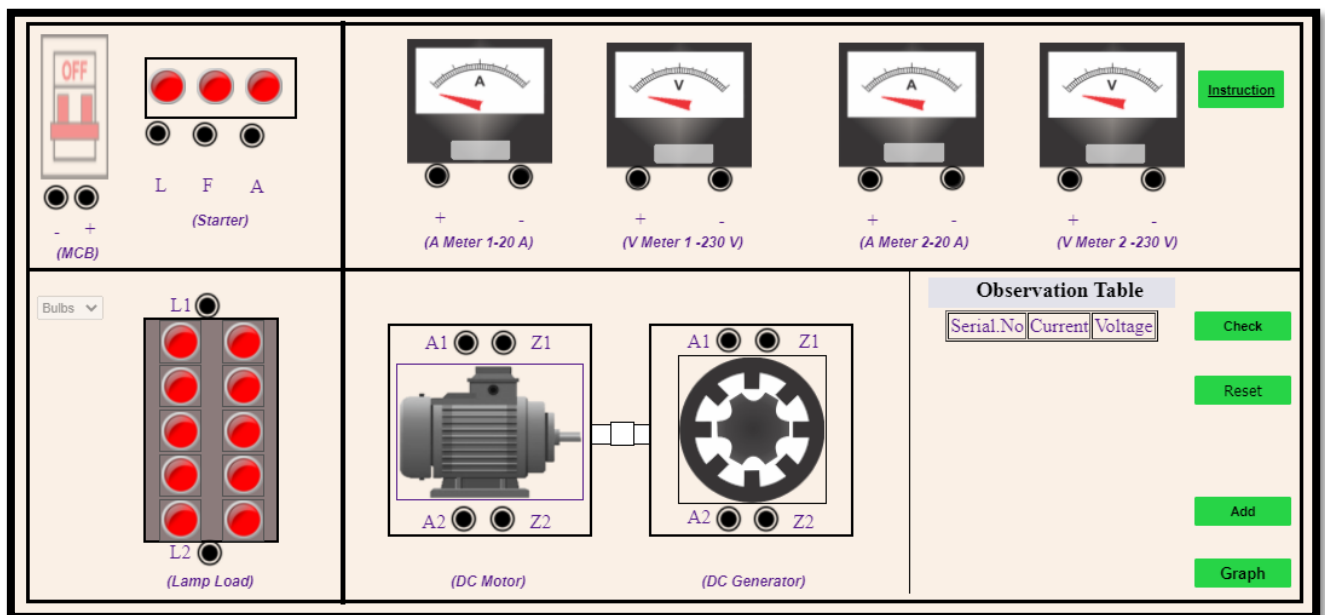

Figure 3: Draw the wiring diagram for this figure.
Step 5.1: Make all the correct connections. Refer to the steps below and **draw the wiring diagram in Figure 3**.